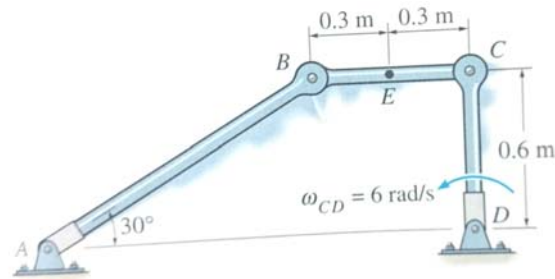

Figure Q2
- Q2.** Four-bar linkages are the basis for many mechanisms. Figure Q2 shows a four bar linkages where the link AB is at an angle of 30 degrees, link BC is horizontal and is 0.6m long and link CD is vertical and 0.6m long. Point E is located midway between points B and C. For the instance shown, link BC is driven by a motor at a constant speed of 6 rad/s counter clock wise. Determine the following: